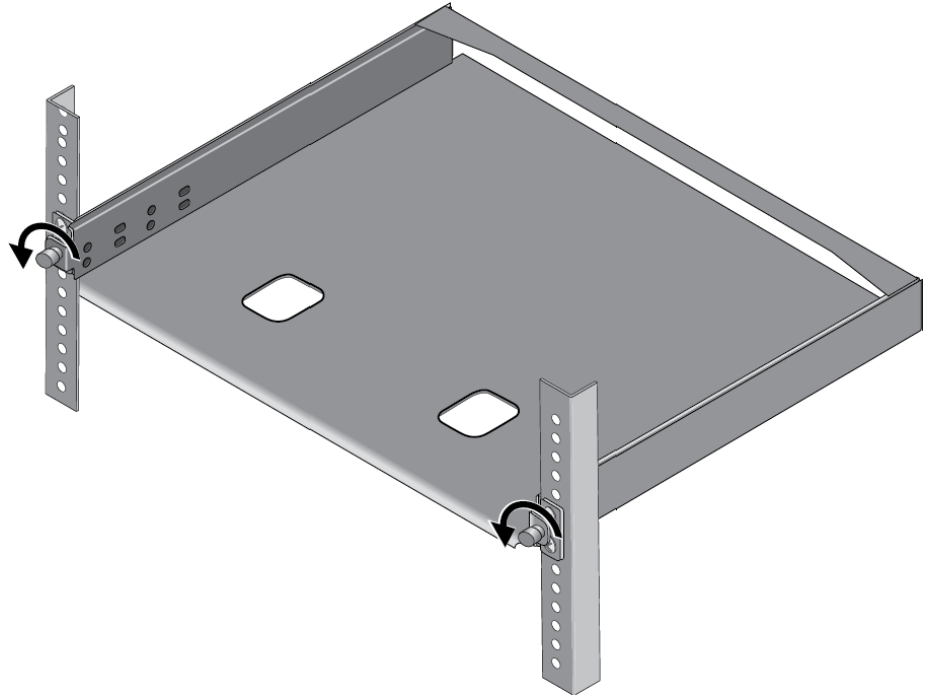

Figure 26. Loosening the Two Thumbscrews on the Front of the AT-RKMT-J15 Bracket
2. Loosen the two thumbscrews on the front of the bracket. Refer to Figure 26.